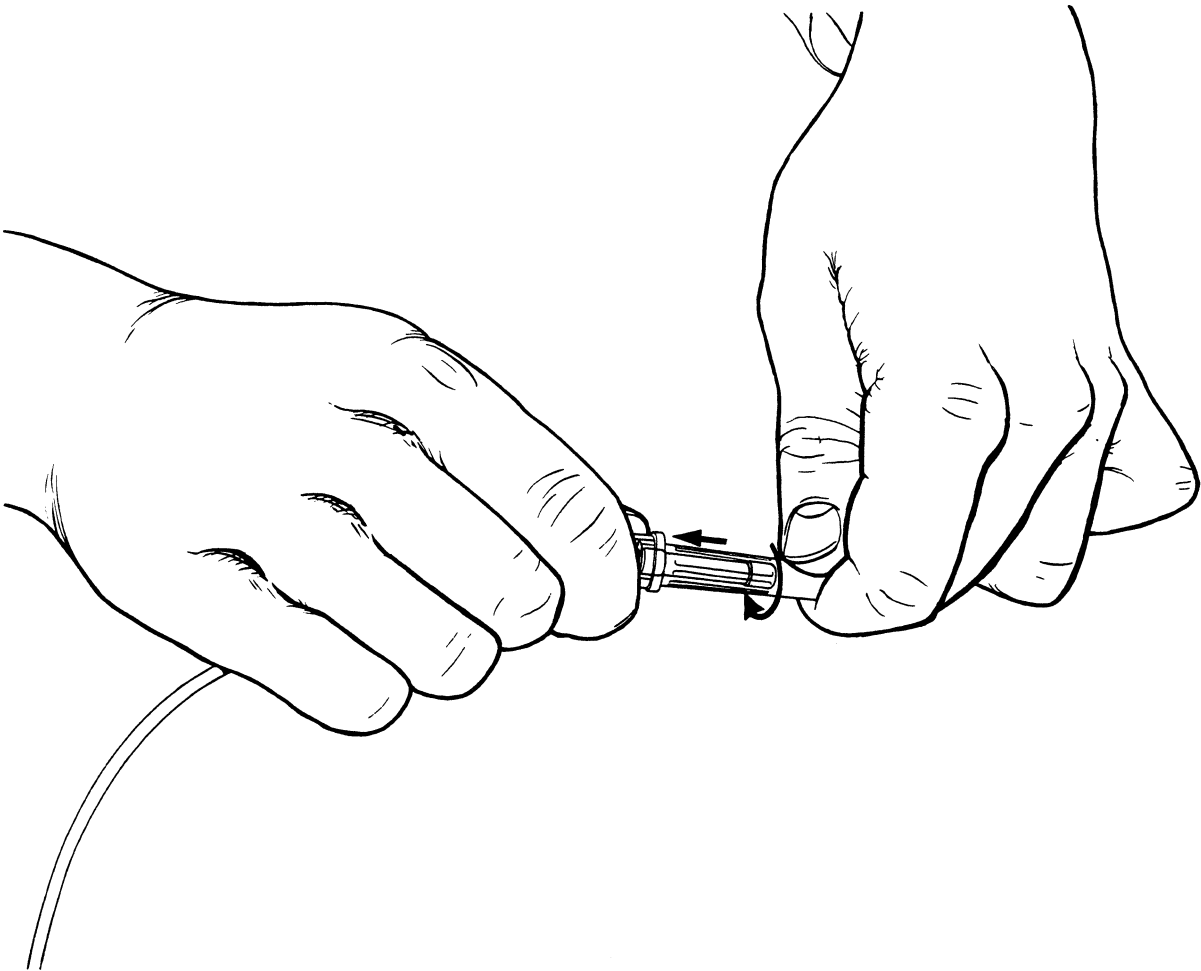

FIG. 12
2. Fig. 12. Holding both ends of the fuse casing, push the top of the fuse in and turn in an anti-clockwise direction as shown.